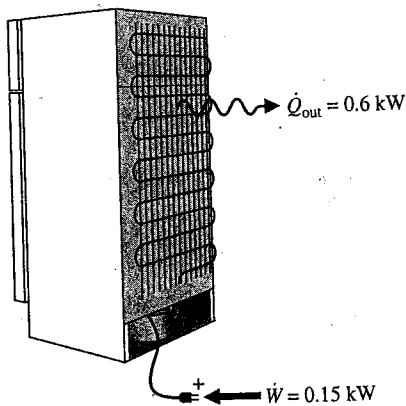

Fig. P2.87
2.87 The refrigerator shown in Fig. P2.87 steadily receives a power input of  $0.15 \text{ kW}$  while rejecting energy by heat transfer to the surroundings at a rate of  $0.6 \text{ kW}$ . Determine the rate at which energy is removed by heat transfer from the refrigerated space, in kW, and the refrigerator's coefficient of performance.